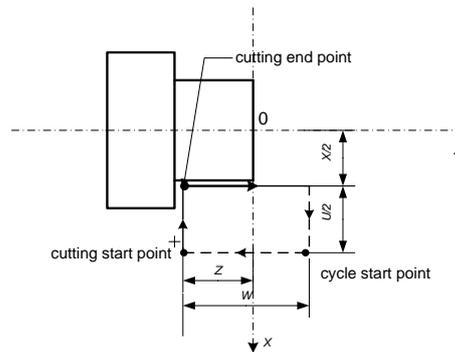

Figure II-27 Use of G94 facing cycle
- 2 X, Z are facing end point coordinates, U, W are facing end point coordinate components relative to cycle start point. The cycle process is as shown in Figure II-27.